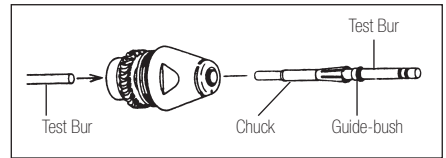

Fig.12
2) When the rotor nut is loose. Push out the chuck carefully with a dummy bur or the shank of bur from the back of the cartridge, the Guide-bush and the chuck will come out. (Fig.12)